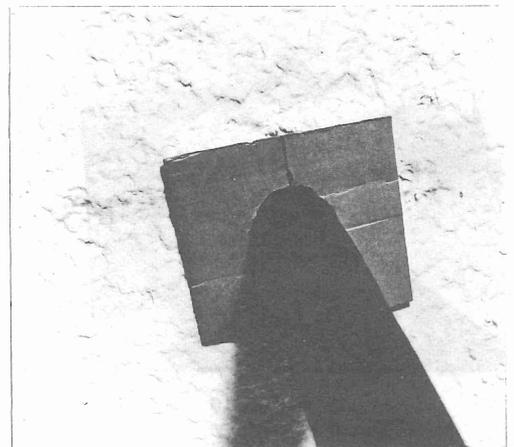

FIGURE 8
6.03 Place a dam around the cable at the face of the conduit. The dam may be made from scrap cardboard cut to fit. (see Figure 8)